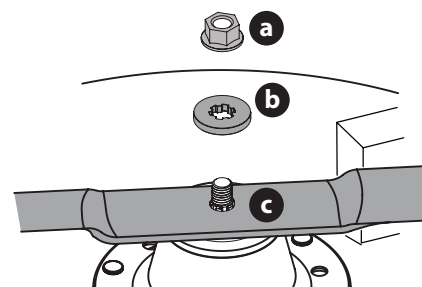

Figure 62
- Remove the flange lock nut (a) and flat washer (b) from the spindle shaft and remove the blade (c) (Figure 62).